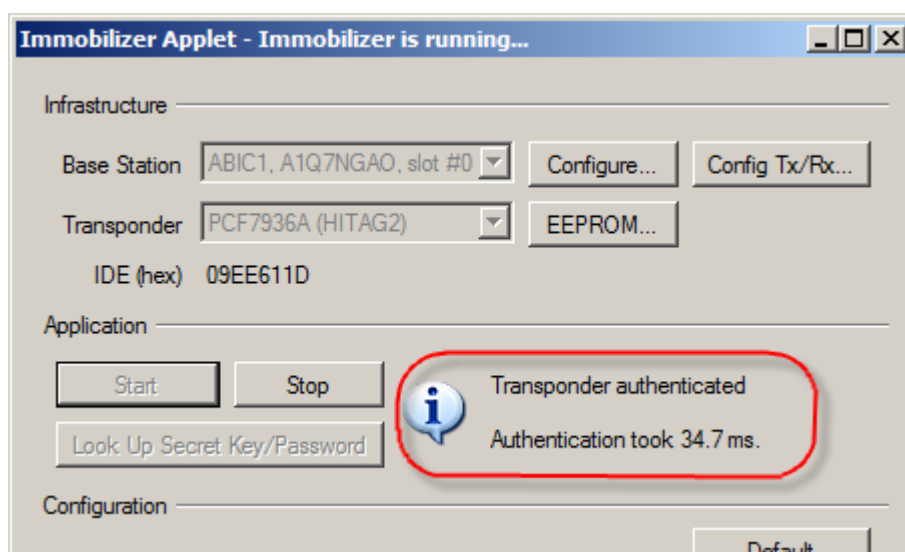

Fig 5. HITAG 2 authentication running
4. The immobilizer applet runs and authenticates the transponder with the default communication and authentication settings (Fig 5).